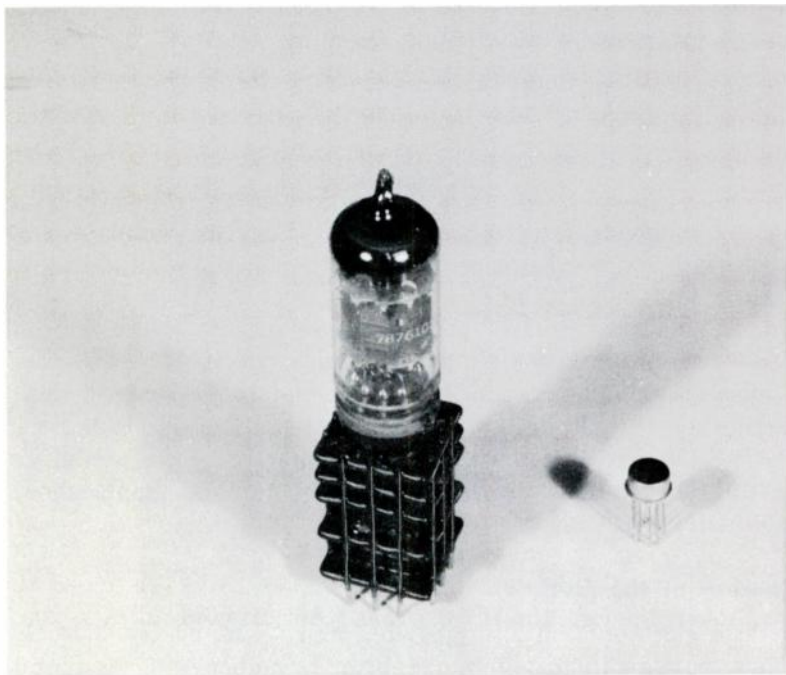
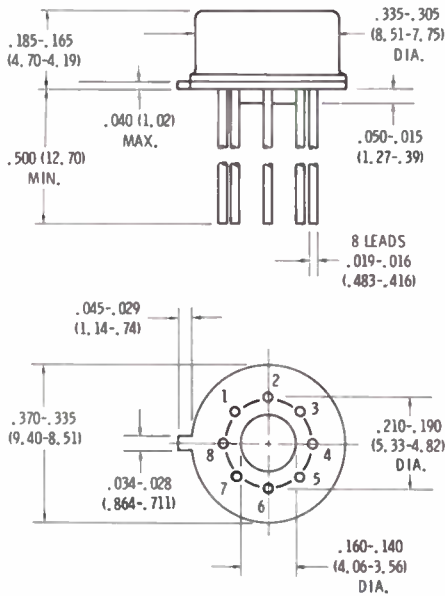
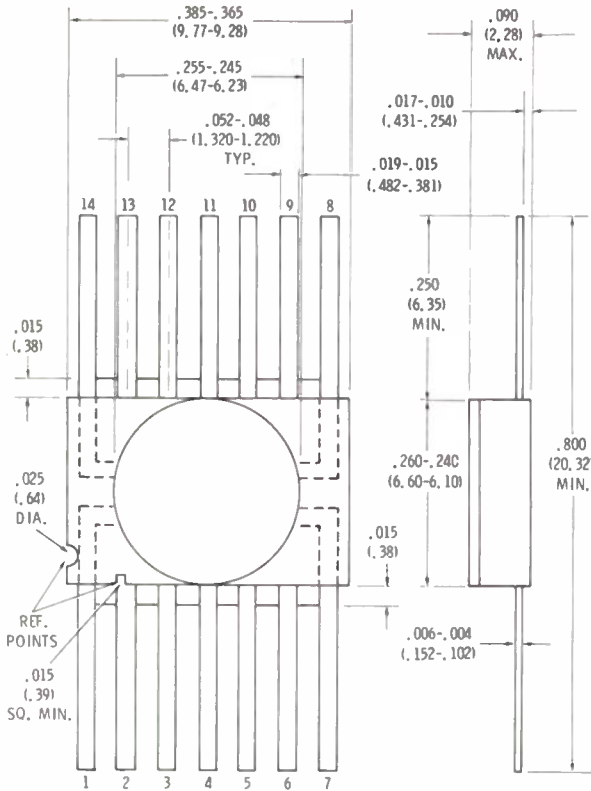

Fig. 1-1. Ten years of progress—a module and an integrated circuit.
Fig. 1-10. TO-5 8-lead package.
Fig. 1-14. 14-lead ceramic-to-metal flat package.
All conventional modules employ discrete components; that is, they have definite resistors, capacitors, and coils. The first modules employed tubes and hand wiring; later ones used tubes and printed circuits. For example, the left unit in Fig. 1-1 is a tube-type, printed-circuit audio amplifier module employing "tinkertoy"-type construction. It uses a dual-triode tube, four resistors, and two capacitors. Still later modules employed transistors and hand wiring and, most recently, transistors and printed circuits.
The integrated circuit (IC) carries size reduction of the module into the realm of microminiaturization. Its dramatic achievement is easily shown: The unit at the right in Fig. 1-1 is an integrated circuit housed in a TO-5 transistor can (0.37-inch diameter, 0.18-inch height, 12 leads); but, in spite of its tininess, it contains 6 transistors, 2 diodes, 17 resistors, and all of the "wiring" between these components, which forms the internal circuit. Thus, in only 0.37 percent of the volume of the module on the left, the IC provides a circuit containing a great many more components.
ages of these six types). In the back row are three IC's housed in the transistor-type metal can mentioned earlier (at rear left is a 12-lead IC, at rear center is a 10-lead one, and at rear right is an 8-lead one). At center left is a 14-lead dual in-line ceramic IC; at center right is a 14-lead dual in-line plastic one. In the front of the group is a 14-lead ceramic-to-metal flat package. Dimensions of these units are given in Figs. 1-10 to 1-15. Special miniature sockets or fixtures are available for inserting either of these IC's into a circuit; or the IC's may be soldered directly into a printed circuit or wired circuit.
Integrated circuits are supplied in several types of small packages (see, for example, Figs. 1-1, 1-2, 1-3, and 1-8). The shapes and dimensions of common packages are given in Figs. 1-10 to 1-15.
In Figs. 1-10 to 1-15, dimensions are given in inches (dimensions in millimeters are shown in parentheses). The terminal arrangements and numbering are shown in bottom views of the IC's, except that Figs. 1-14 and 1-15 are top views.